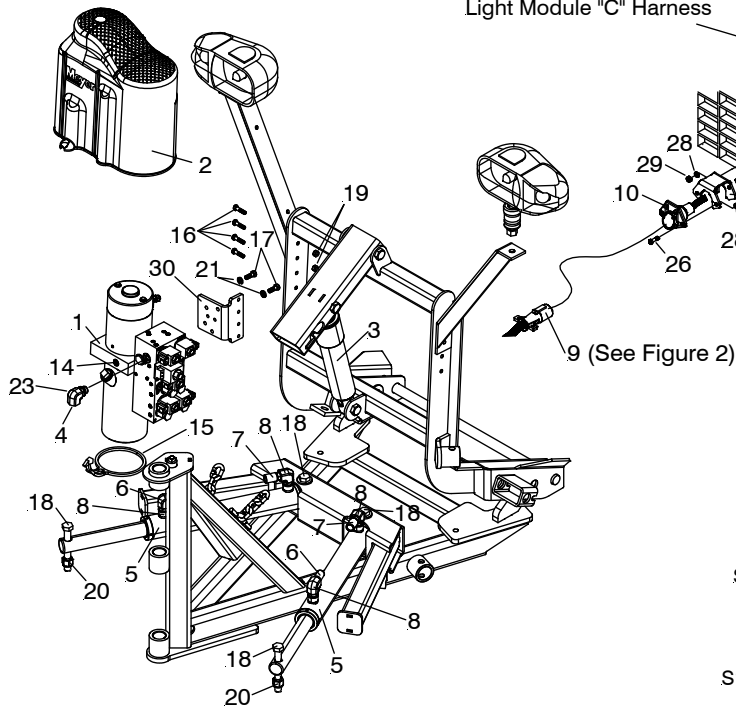

Figure 1
- A. Install the V-70 Mounting Bracket (30) to the Lift Frame and Light Bracket (**Passenger Side**) using 5/16-18 x 1-1/2" Bolts (16) and 5/16-18 Locknuts (19). Install the V-70 Lift Assembly (1) to V-70 Mounting Bracket Assembly and Light Brackets from the CLF Carton(30) using Bolt H 3/8-16 x 1-1/4" (17) and 3/8 Lockwasher (21). Remove shipping plug on V-70 Lift Assembly and install Breather (14). See figure 1.
- B. Attach Lift Arm packed in the CLF Carton to Lift Frame using Bolt H 5/8-11 x 5-1/2" and 5/8-11 Locknut. Attach the Lift Cylinder (3) to the Lift Arm using Bolt H 5/8-11 x 4-3/4" and 5/8-11 Locknut. Attach the Lift Cylinder (3) to the Lift Frame using Bolt H 5/8-11 x 3-1/4" and 5/8-11 Locknut. Attach elbow (23) to V-70 Lift Assembly (1) along with Hose (4) and attach hose (4) to Lift Cylinder (3).
- C. Attach fixed end of Wing Cylinders (5) to the A-Frame with a 5/8-11 x 5" bolt (18) (for SV 7.5 LD use 5/8"-11 x 5-1/2" bolt (18a)) and 5/8-11 locknut (20) on each side.
- D. Attach live end of Wing Cylinder rod (5) to the Wings using a 5/8-11 x 5" bolt (18) and 5/8-11 locknut (20) on each side.